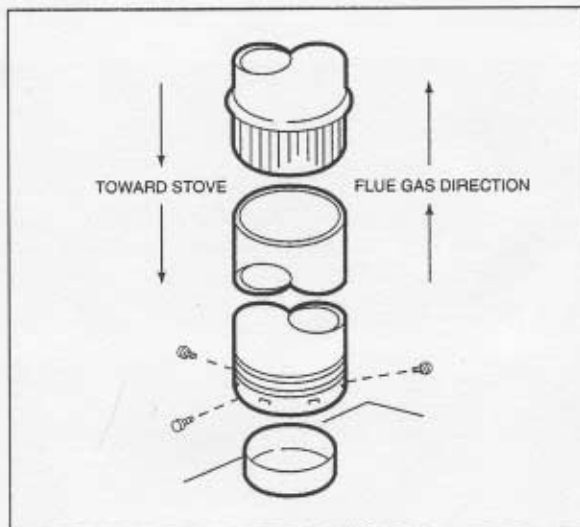

Figure 7
- A. Single wall connector or stovepipe. This must be at least 24 gauge mild steel or 26 gauge blue steel. The sections must be attached to the stove and to each other with the crimped (male) end pointing toward the stove. See Figure 7. All joints, including the connection at the stove collar, should be secured with three sheet metal screws. Make sure to follow the minimum clearances in Table 1.